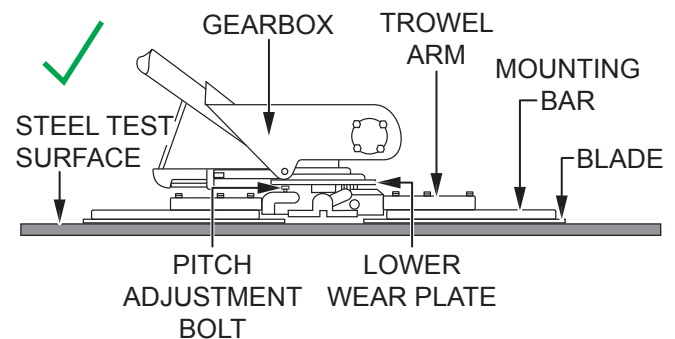

Figure 59. Blades Pitched Flat (Correct)
- Pitch the blades as flat as possible (Figure 59). The pitch adjustment bolts should barely contact the lower wear plate (0.1-inch maximum clearance). All adjustment bolts should be spaced the same distance from the lower wear plate. If any one of the bolts does not make contact, adjustment is necessary.